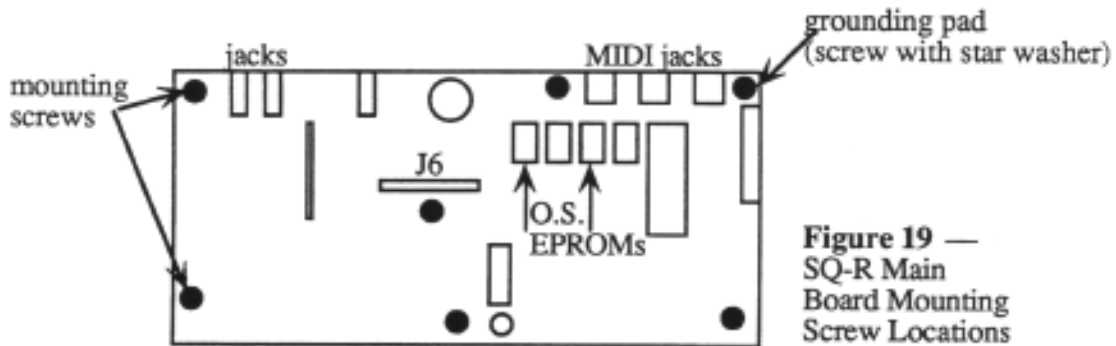

Figure 19 —
| Removing | <ol style="list-style-type: none"> 1. See Section F, p. 37 to remove the Lid. 2. Disconnect the cables from the Main Board: <ol style="list-style-type: none"> a) the 4-pin Phones cable (J1), NOTE that it is keyed, b) the 5-pin Display cable (J5) NOTE that it is keyed c) the 40-pin Cartridge ribbon cable (J6) d) the 6-pin Power cable (J12) 3. Remove the seven (7) screws that secure the Main Board to the base (there is a screw hiding under the 40-pin ribbon cable). Note that there is a star washer on the grounding pad (next to the MIDI Thru jack, see Figure 19). 4. Remove the main board and place it in the anti-static bag that the replacement board came in. |